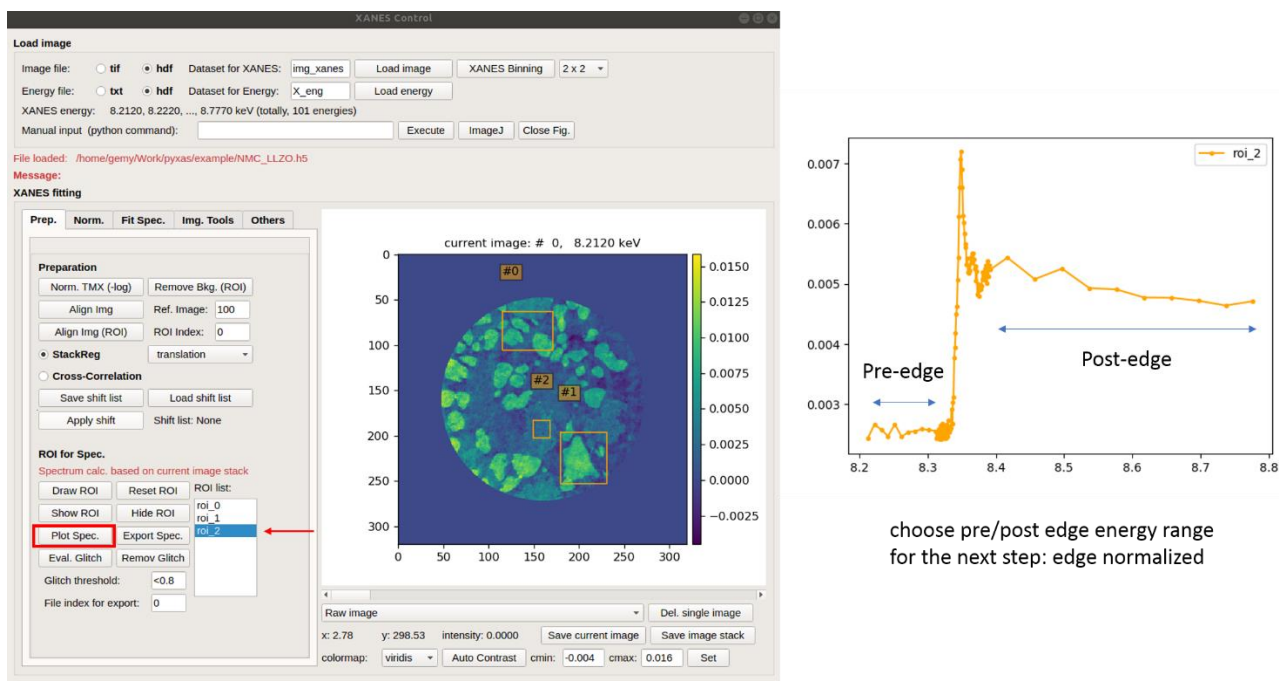
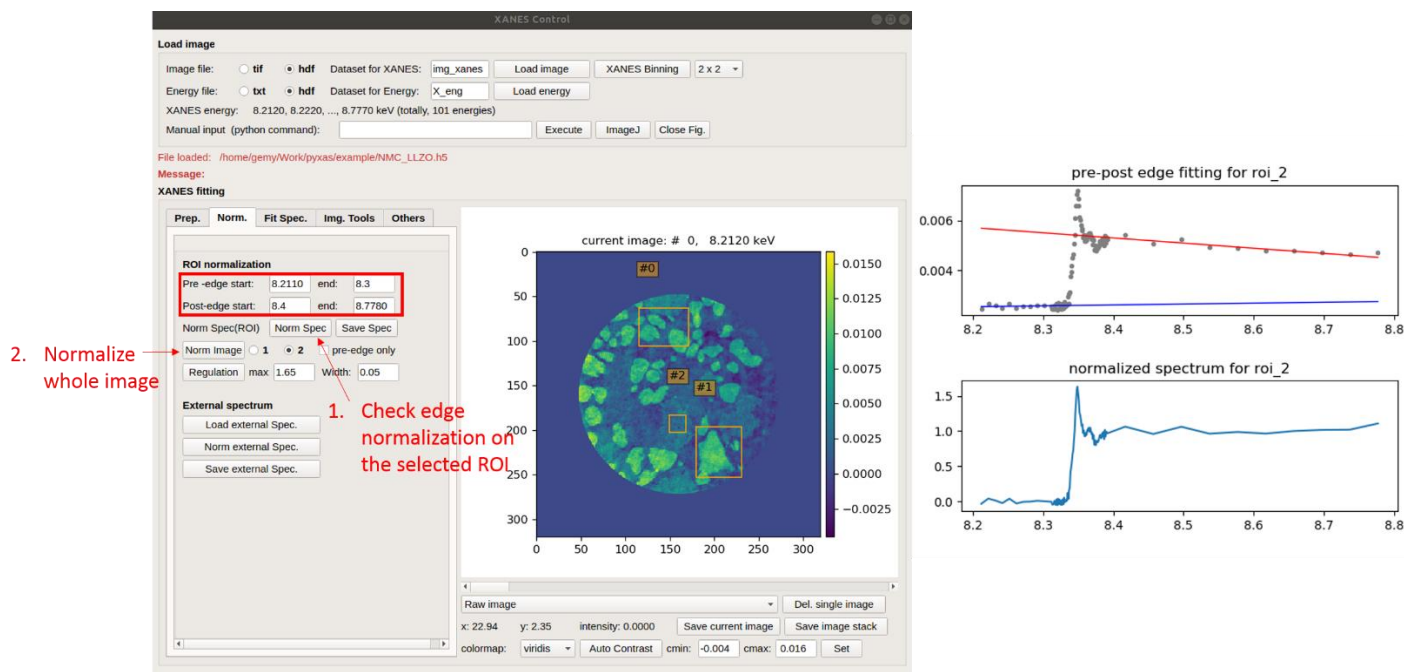

Fig. 2. Draw ROI and plot the spectrum, determine the energy range for pre/post absorption edges.
Fig. 3. Edge normalization on selected ROI (e.g., ROI2) and the whole image. Left: screen shot of package interface. Right: edge-normalization for ROI2
Edge normalization (Tab: Prep. & Norm.) (Fig. 2, Fig. 3)
2. Check energy range of pre-edge and post-edge (**Fig. 2**)
3. Under the "Norm." tab, input the pre and post-edge energy range in the relevant fields: "Pre-edge start/end" and "post-edge start/end" (**Fig. 3**)
Note: if this is material that will be used as a reference material, click the "Save Spec" button to save the normalized spectrum for use as the reference spectrum required for the subsequent XANES fitting. (**Fig. 3**)
5. Once we are satisfied with the defined energy range of pre/post edge, we can perform the edge normalization for the whole image, simply by clicking "Norm Image" (**Fig. 3**)